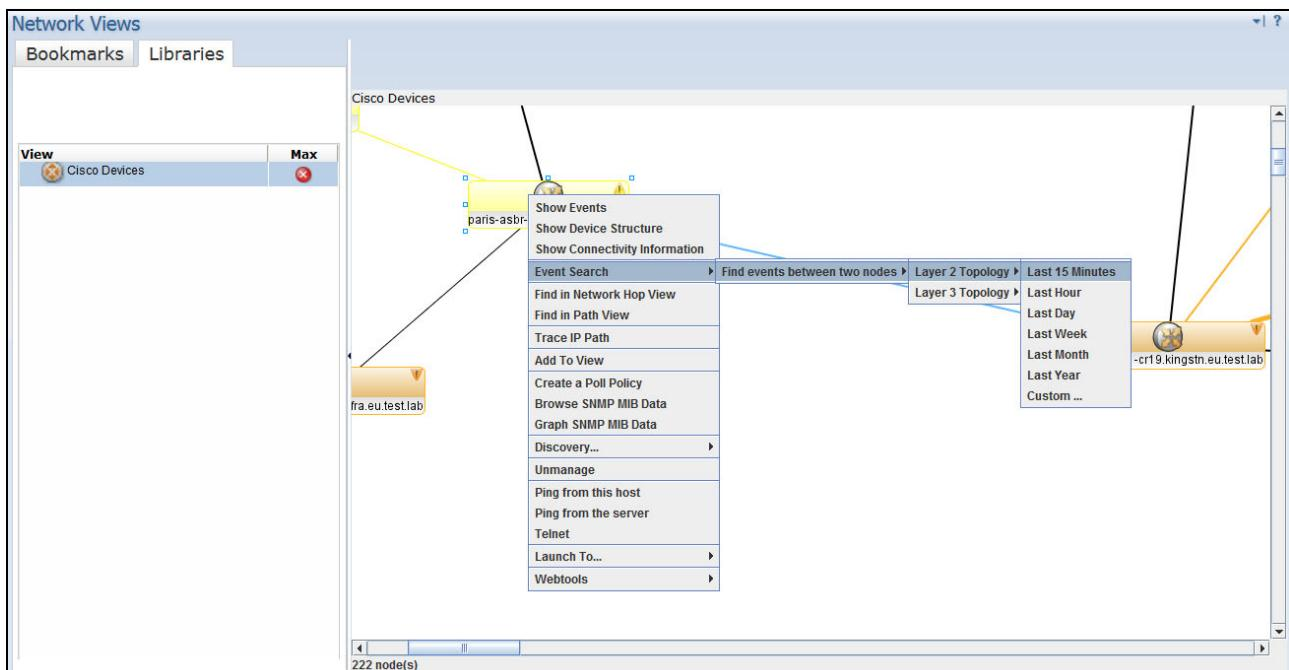

Figure 5-4 Find events between two nodes
6. Tom right-clicks one of selected devices and chooses **Event Search → Find events between two nodes → Layer 2 topology → Last 15 minutes**, as shown in Figure 5-4.